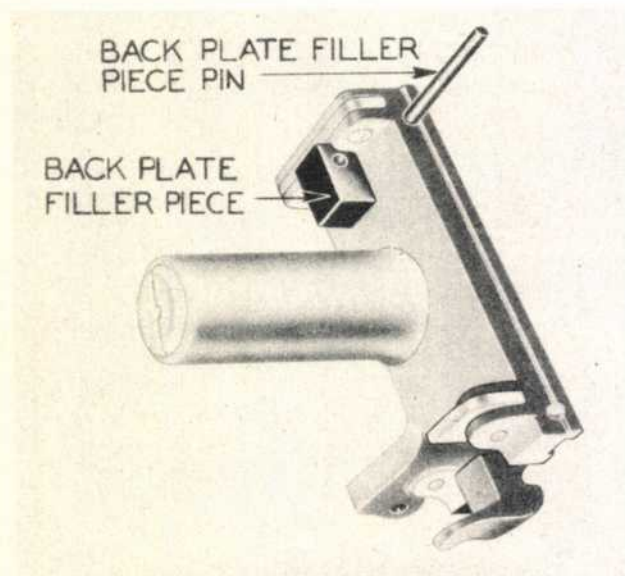

Figure 8—Removing Backplate Filler Piece
- b. Remove backplate filler piece (figure 8) by driving out backplate filler piece pin.